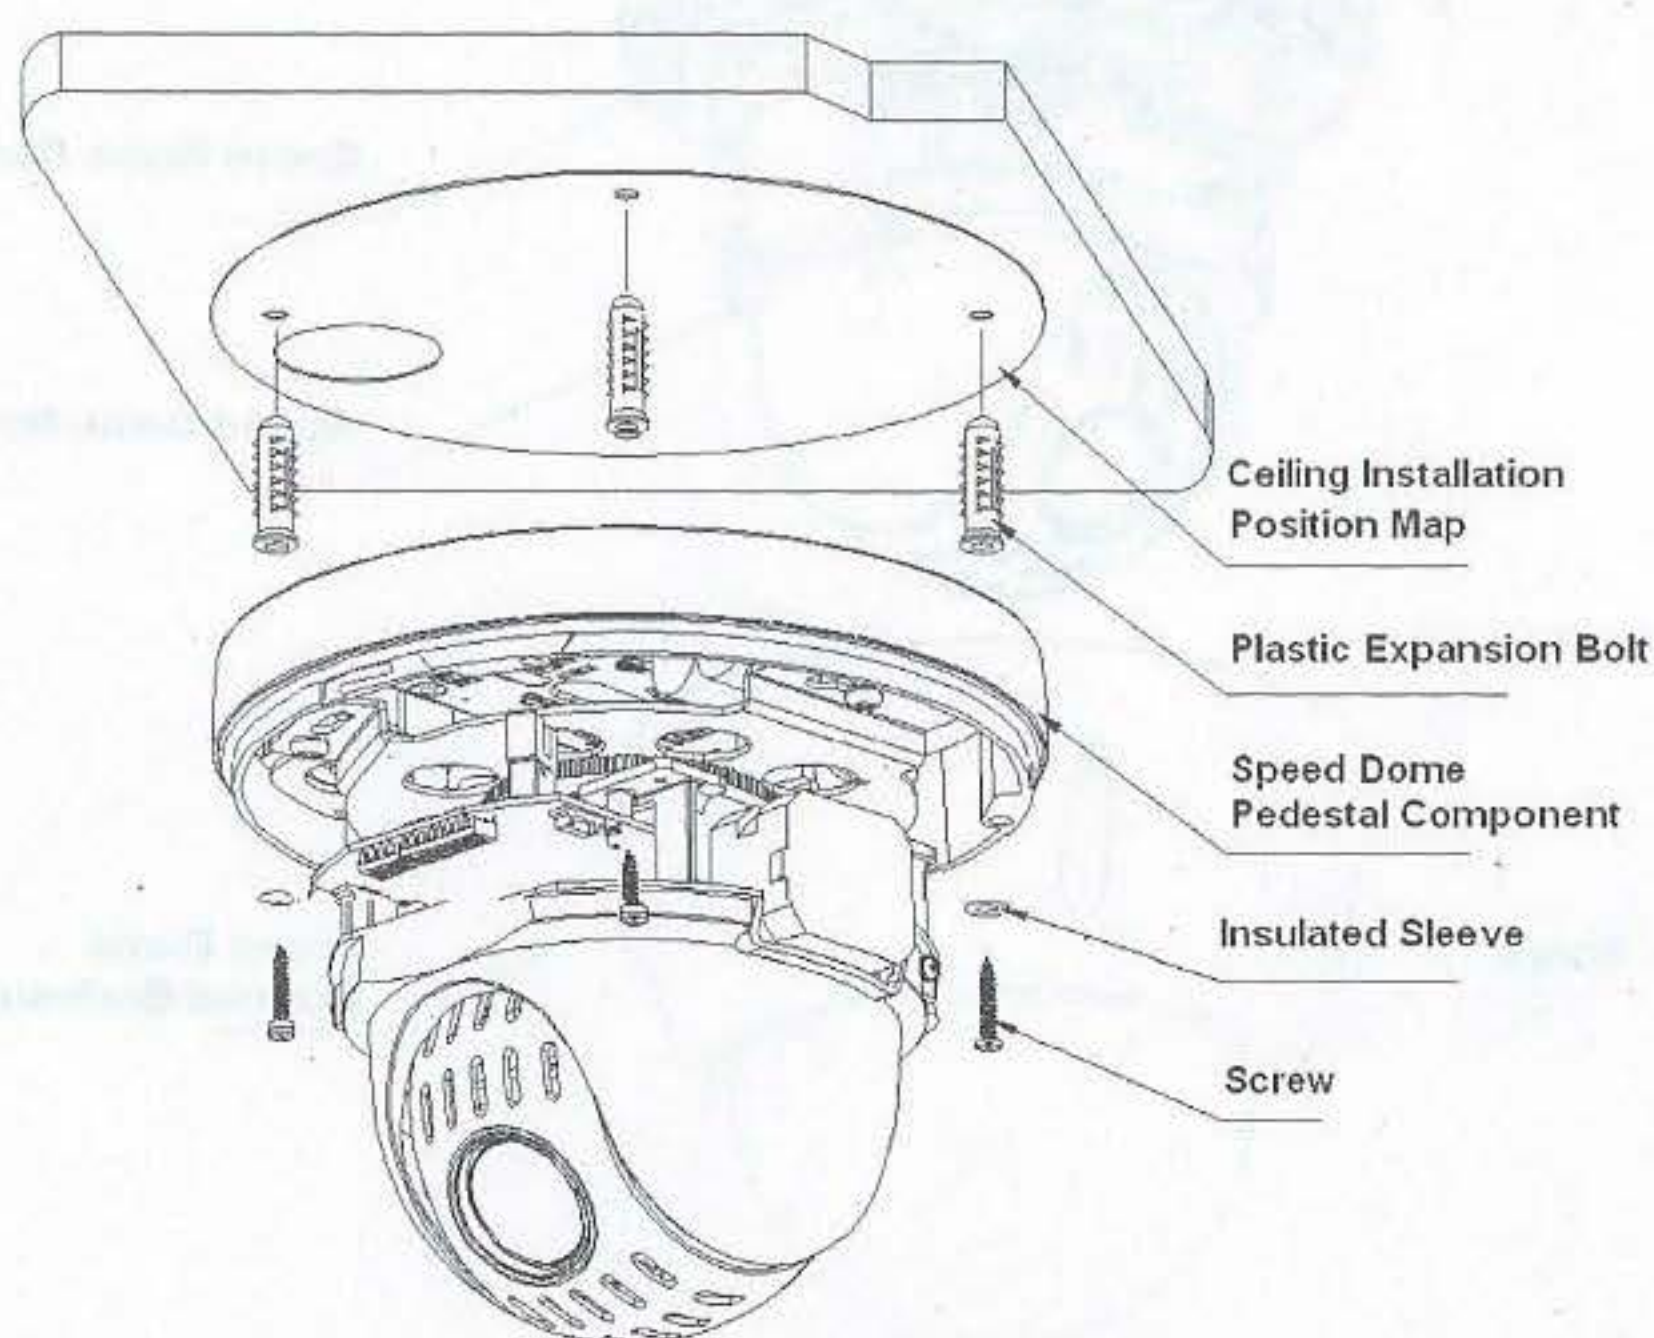

Figure 3-2
- 1) In Figure 3-2, pull the cable according to your cable exit mode. And then use four screws (working with insulated sleeve) to secure the pedestal of ceiling mount speed dome on the ceiling. Turn the screws to the plastic expansion bolts.